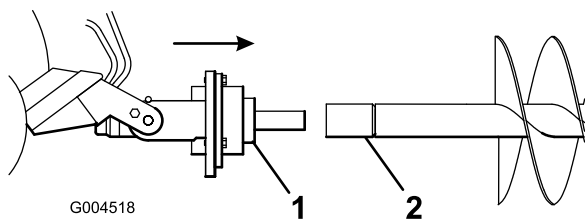

Figure 7
7. Maneuver the drive shaft into the end of the auger shaft or extension (if applicable) (Figure 7).